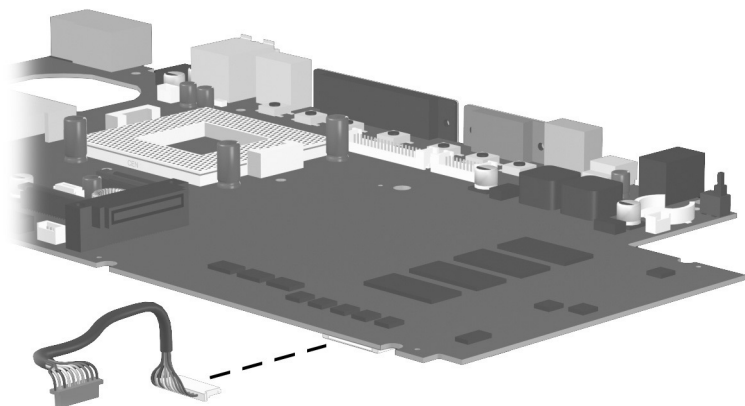

Figure 5-50. Removing the Audio Board Cable
10. If necessary, disconnect the audio board cable from the system board (Figure 5-50).